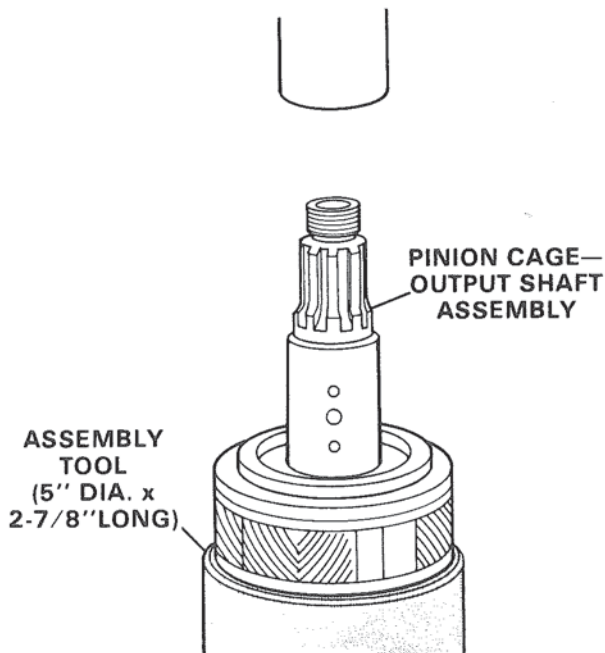

Figure 41. Pinion Cage and Output Shaft Assembly on Arbor Press.
1. Place the pinion cage and output shaft assembly on a 5 in. diameter by 2-7/8 in. long assembly tool, which, in turn, is mounted on an arbor press, as indicated in Figure 41.